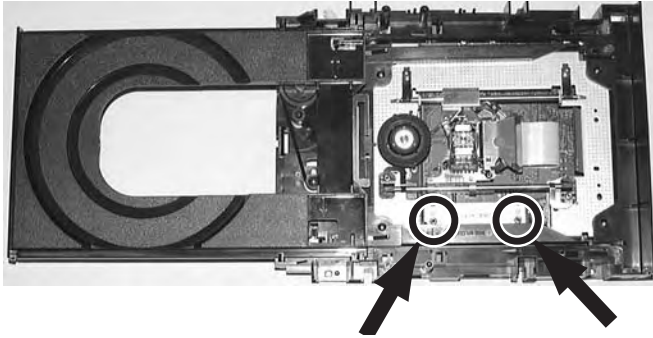

Figure 4-5 Remove Sledge Motor Assy
- Remove the 2 screws that hold the sledge motor, see figure 4-5